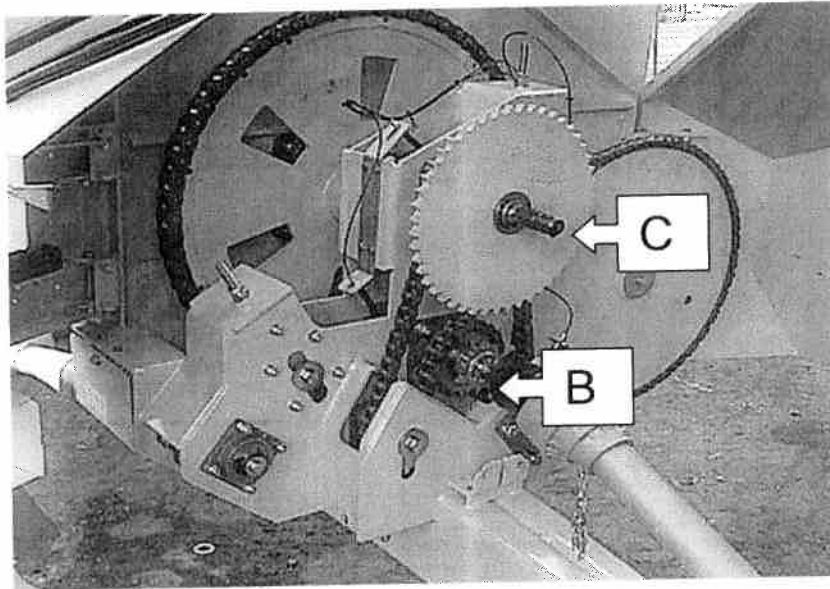

Fig.2
If an obstruction is encountered which is large enough to continuously shear the auger shearbolt you can reverse the drive simply by moving the PTO shaft from the main drive shaft (B) to the reverser shaft (C) ; (See Fig.2)